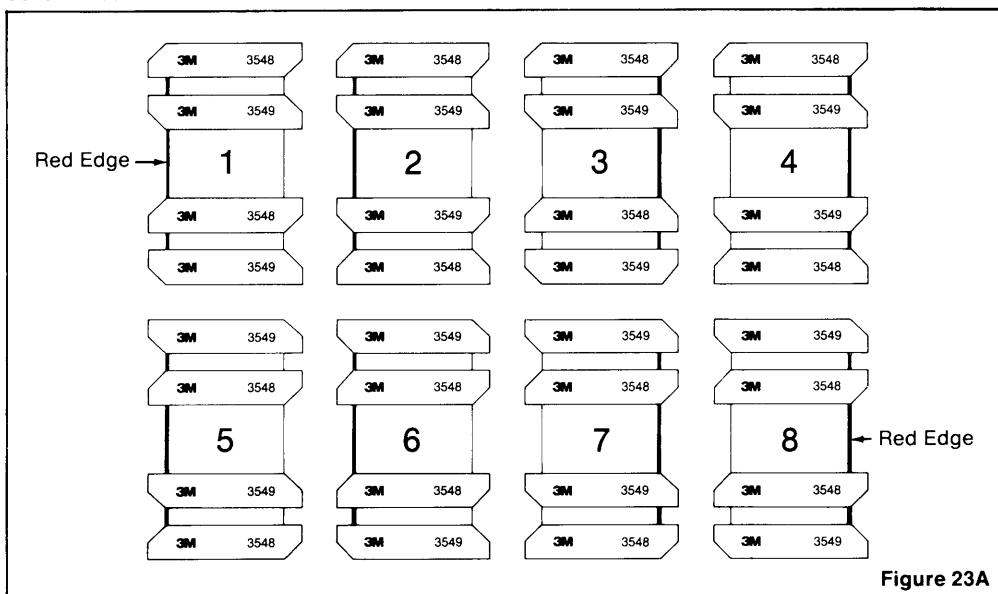

Figure 23A
7. Assemble Scotchflex connectors 3548-1000 and 3549-1000 for a Type A, B or C configuration. (Figures 23A, 23B, 23C, 31, 32)